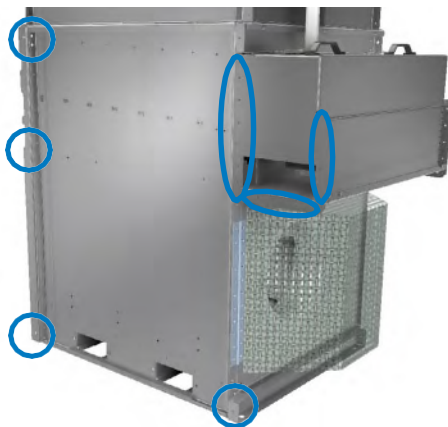

Figure 10c. Location of Bolts Required to Join Modules
3. Bolt the modules together at the locations shown in **Figure 10c**. Use 3/8" bolts at the circled locations and 5/16" bolts in the spray water basin.